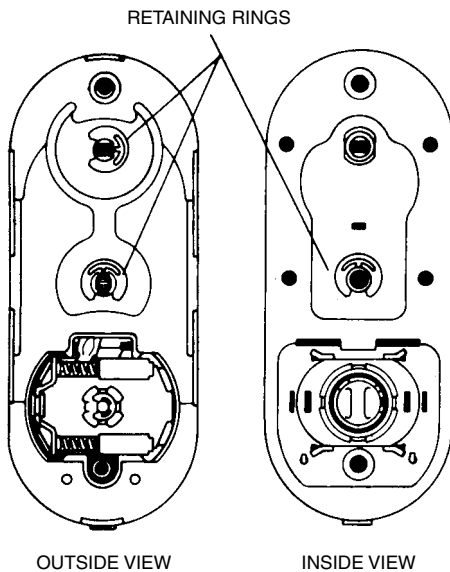

Figure 13.93 Right-hand conversion, Step 1.
1. Disengage the retaining rings (Fig. 13.93).